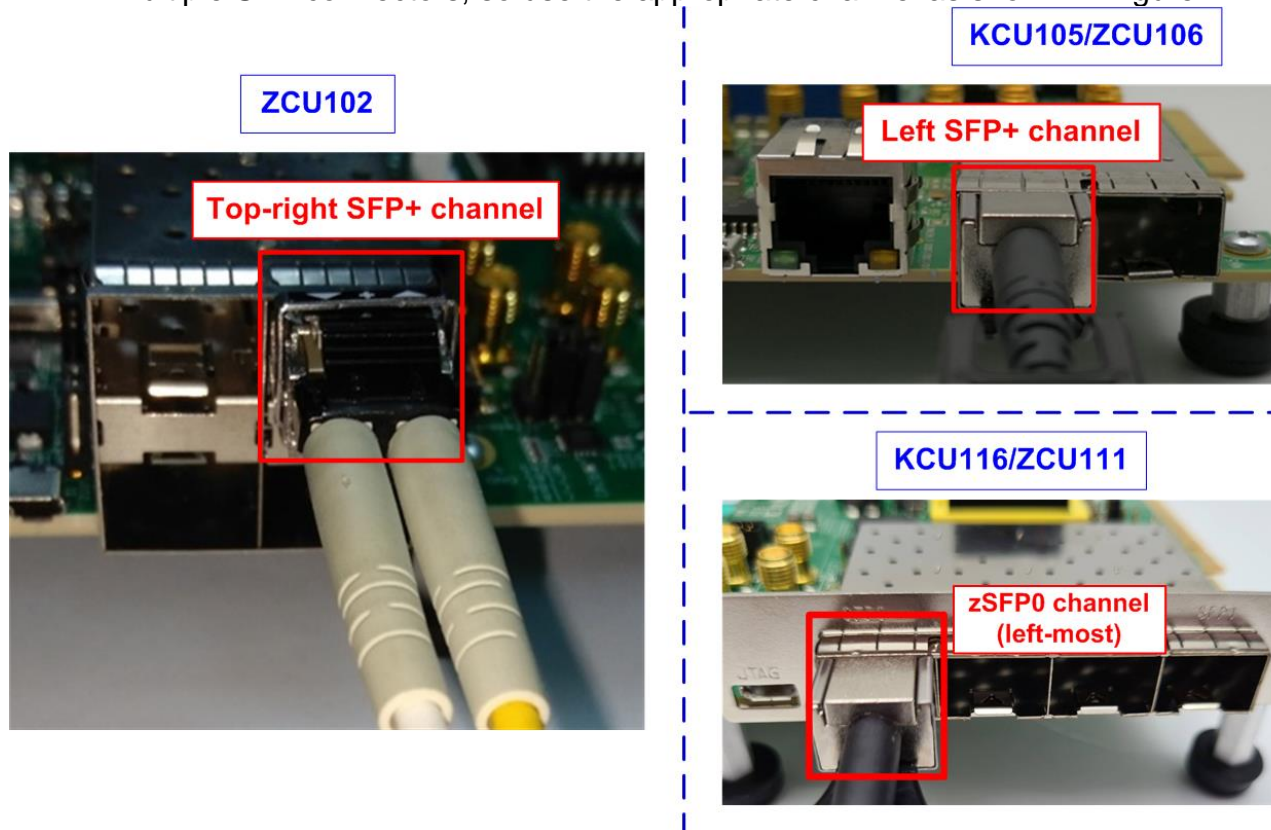

Figure 2-11 SFP+ channel using on ZCU102/ZCU106/KCU105 board
- a) For ZCU102/ZCU106/KCU105/ZC706/KCU116/ZCU111 boards, insert a 10 Gb SFP+ DAC (Length<1m), AOC, or SFP+ transceiver with an LC-LC cable. Some boards have multiple SFP connectors, so use the appropriate channel as shown in Figure 2-11.